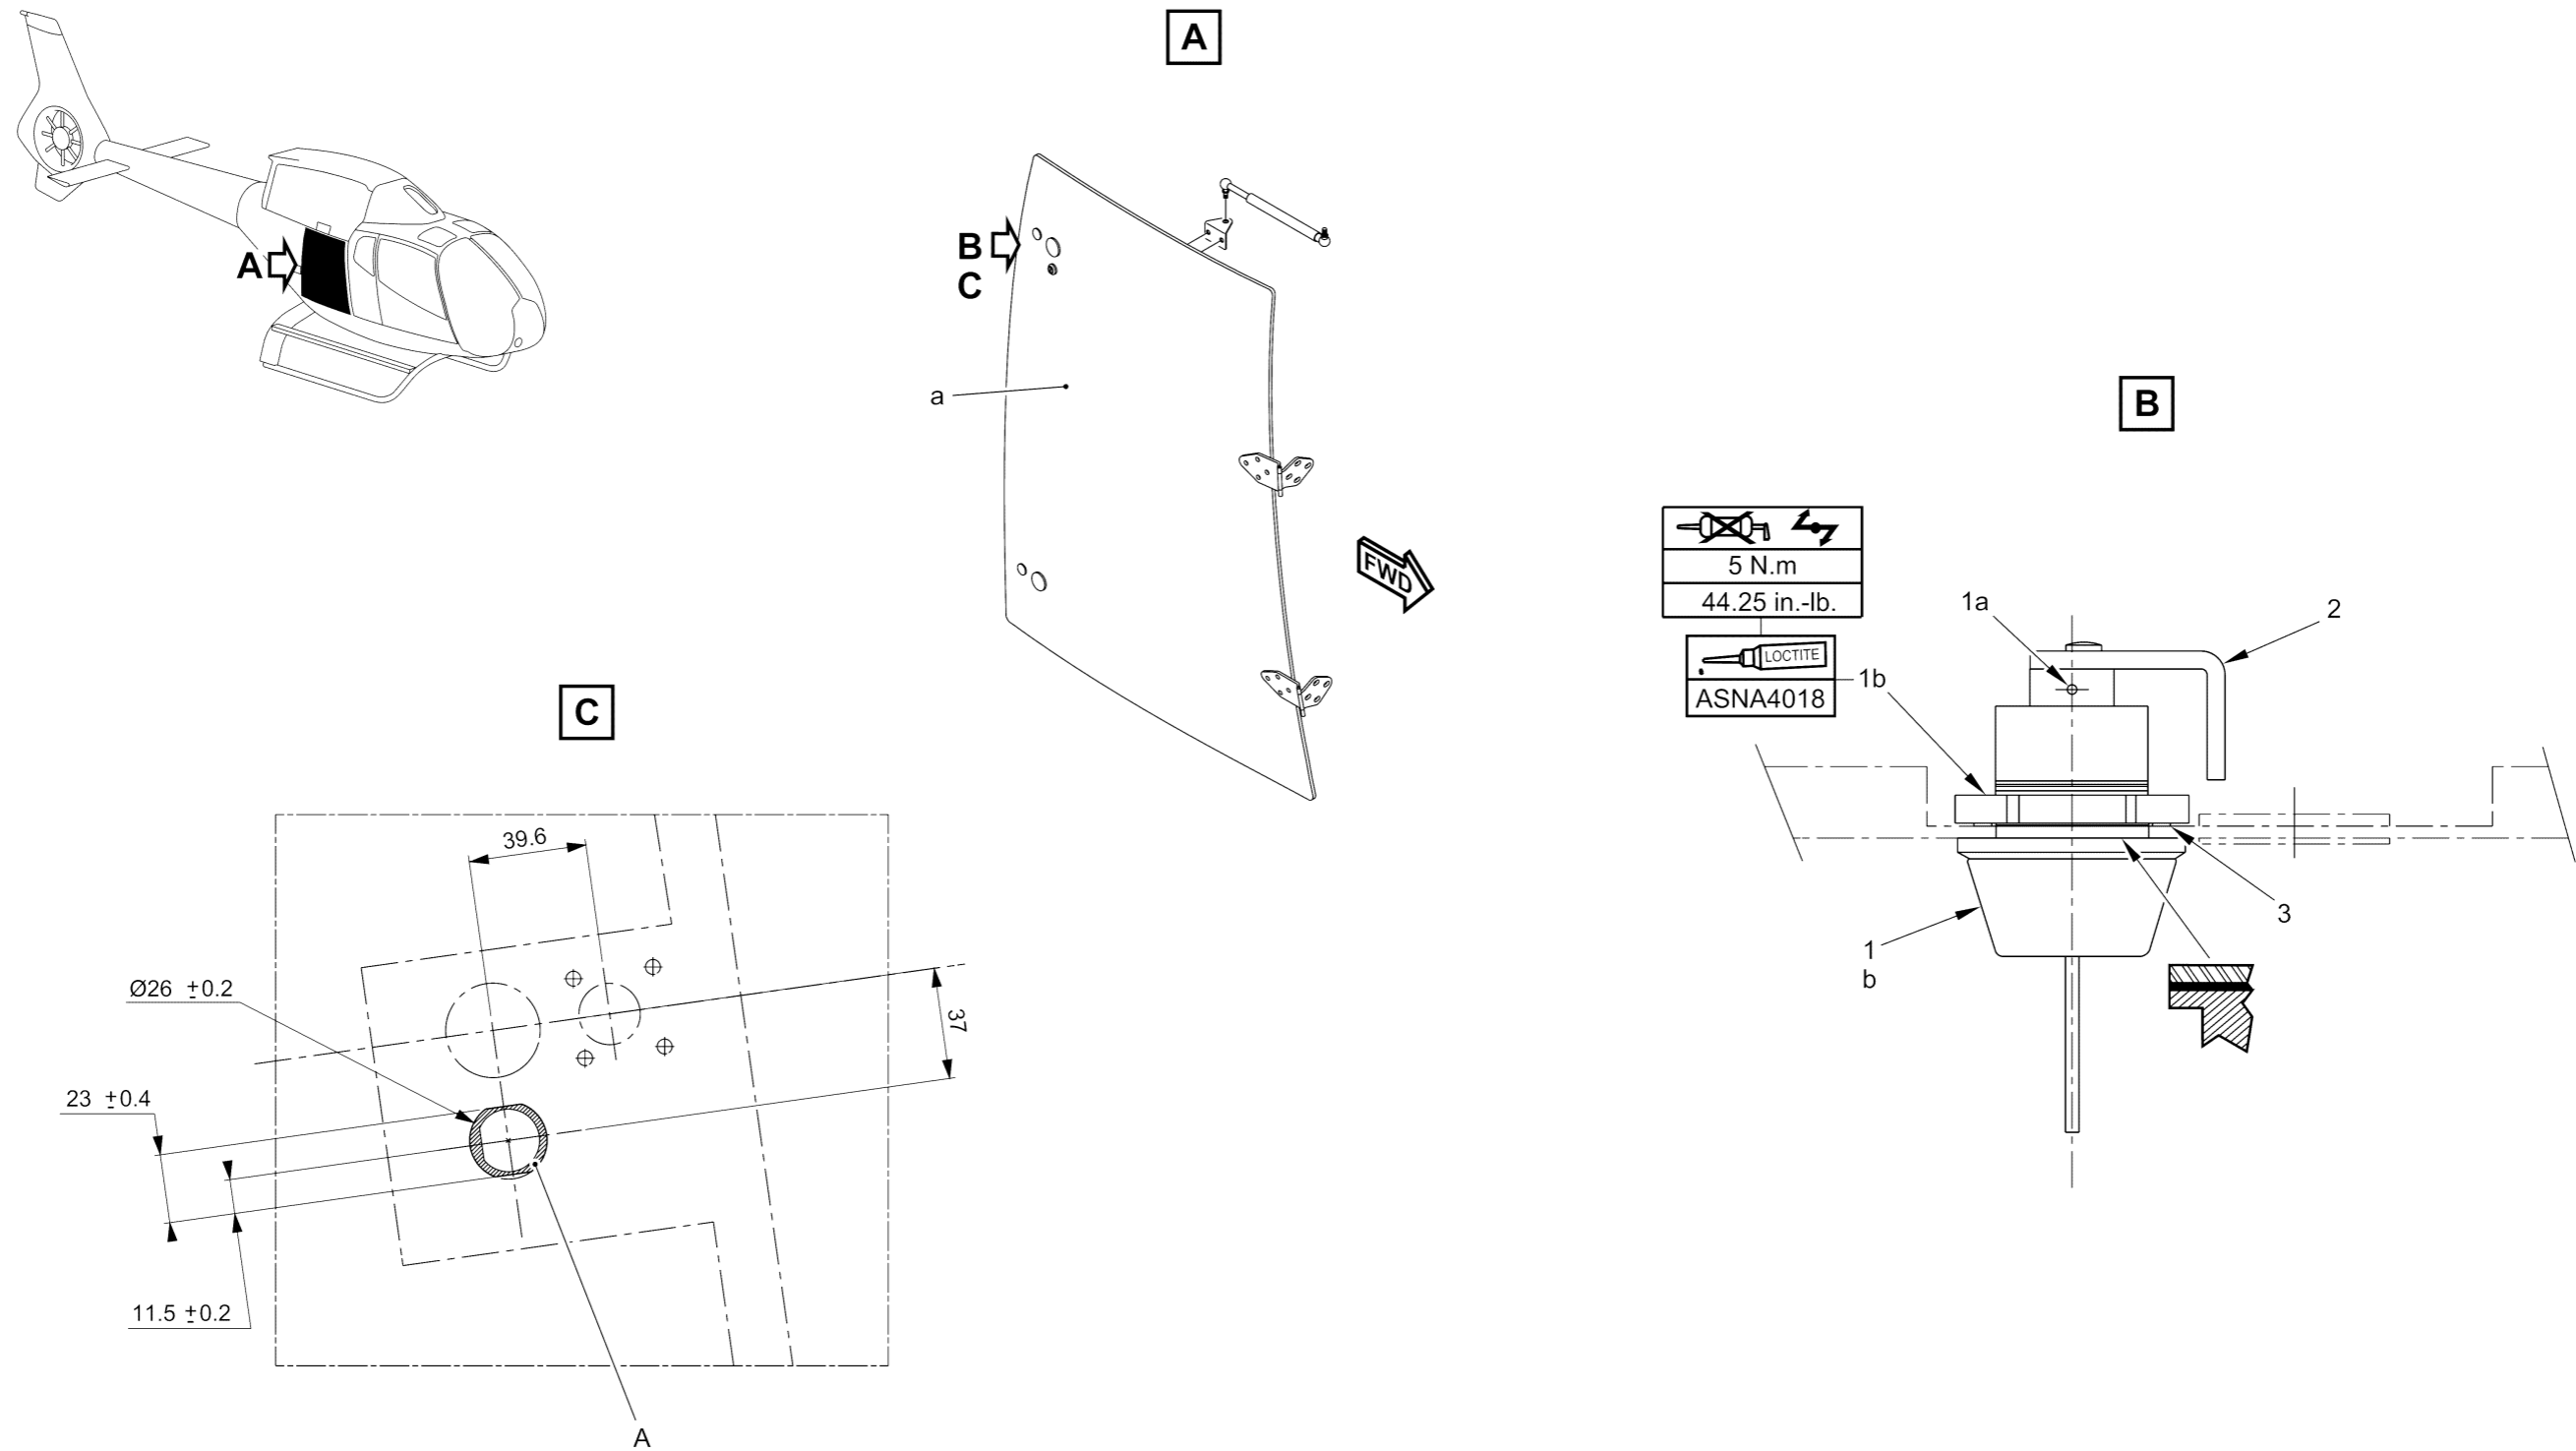
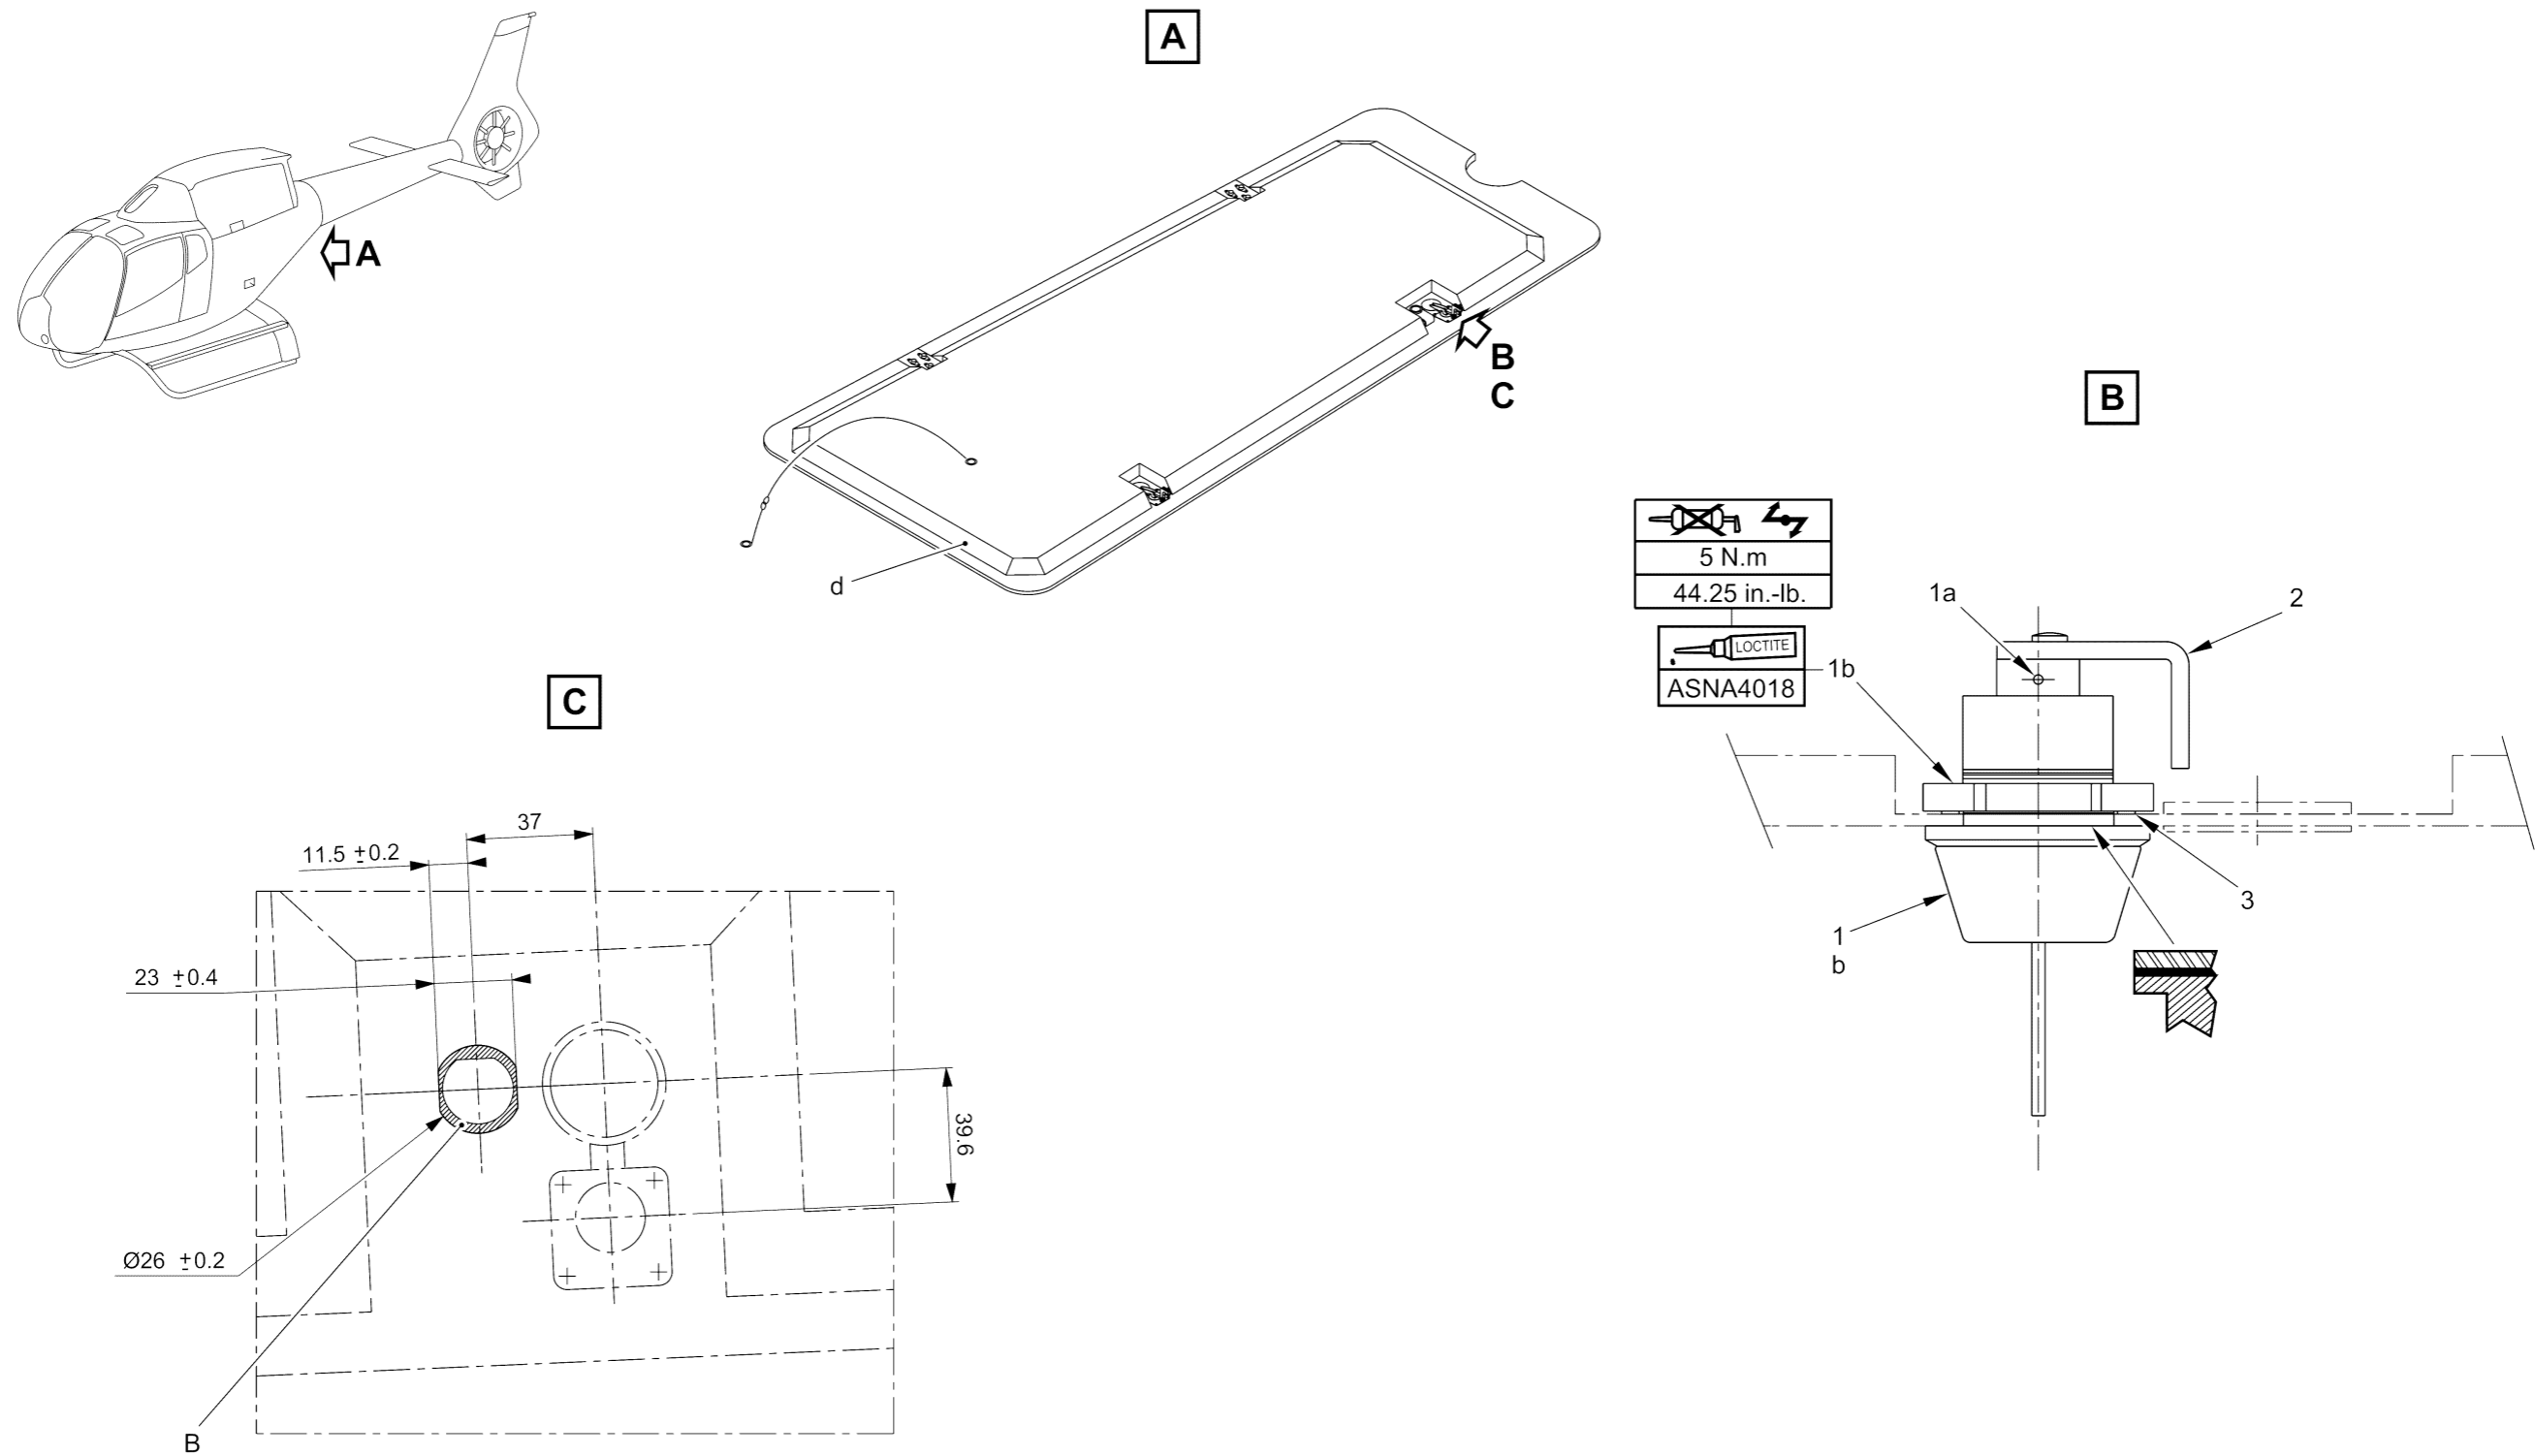

Figure 1
Figure 2
3.B.2.a. Modification of the RH cargo door and rear access door (Figure 1, Figure 2)
Only the assembly for the RH cargo door (a) is given. Do the same procedure for the rear access door (d) with the cutout (B) and as per Task 52-30-00,4-3 (AMM) (Figure 2).
As per Figure 1